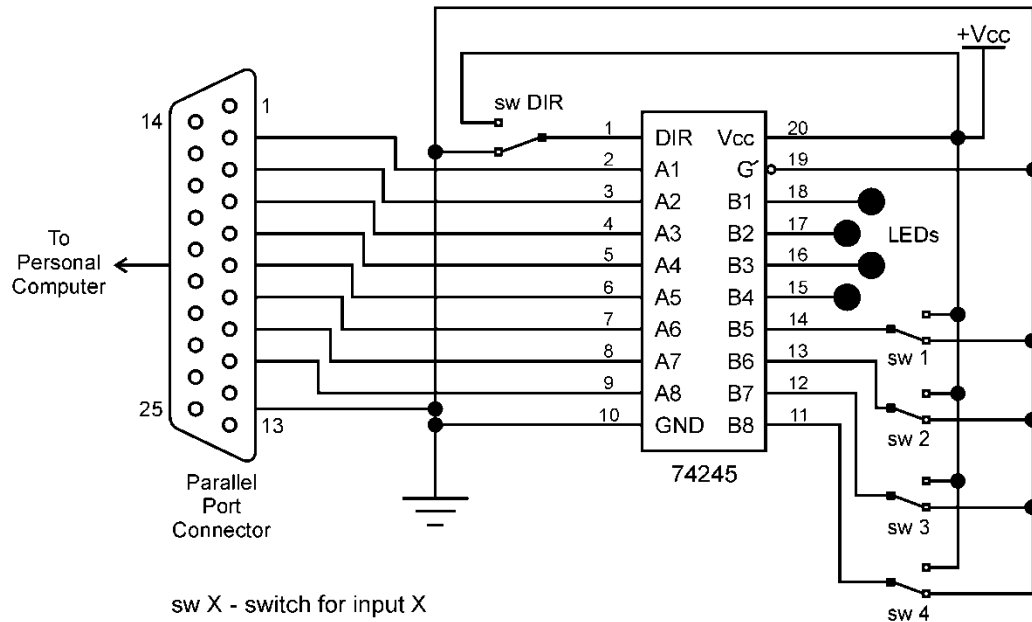

Figure 15.4: Interface of 74245 to PC via Parallel Port
2. Connect various pins of the connector and 74245 according to the circuit diagram shown in figure 15.4.